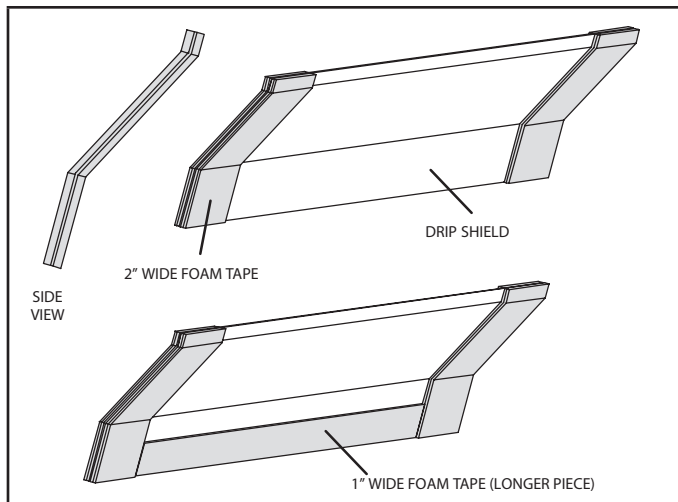

FIGURE 14. Applying Foam Tape to Drip Shield
- 4 - Remove screws from top cap. Remove horizontal drip shield screw located in the center of the back coil end seal as illustrated in figure 14 on page 26.
- 4 - Foam tape that is provided creates a seal between the drip shield and the coil so that water does not leak into the air stream. The foam tape pieces are precut. Apply the tape to the drip shields as illustrated in figure 14 and specified as follows: